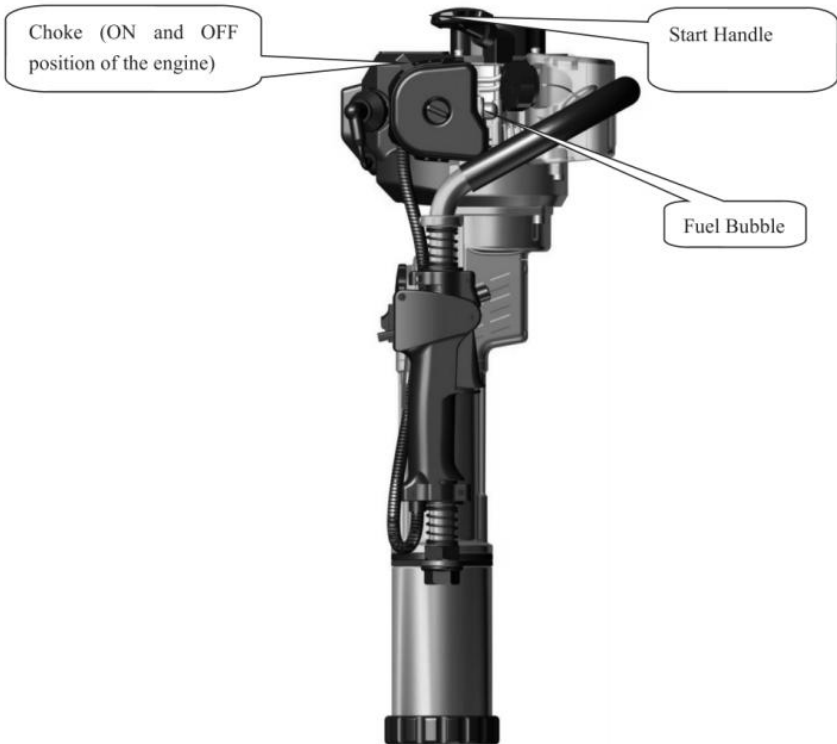

Fig 4
5.1 Before starting the new machine,press the transparent and semi-circle fuel bubble repeatedly(Fig.4)until carburetor is filled with fuel.(If the engine is cool,close the air door.Open air door after starting.)
5.2 Set the machine upright according to Fig.4.Hold the upper part of the handle tightly with one hand while the other pulls the pulling handle of starter for over 50cm quickly.Do not let the pulling handle go back freely in repeated pulling but hold it tightly to avoid injury resulting from quick resilience.